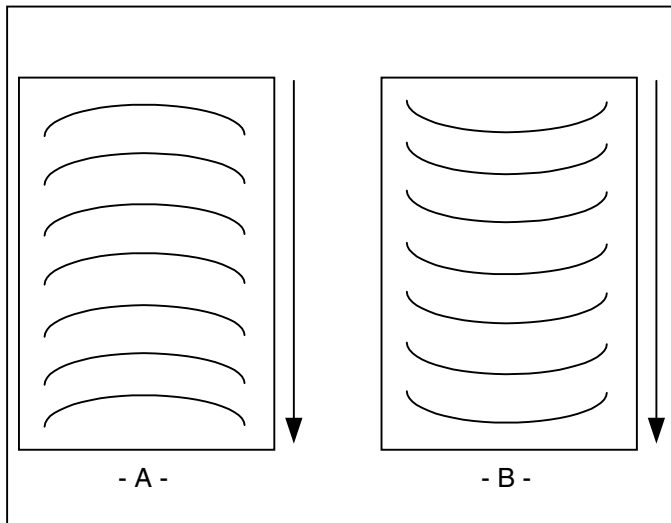

Fig. 35
1. "D" waves in the image (Figure 35 A).
2. "D" waves in the laminate (Figure 35 B).